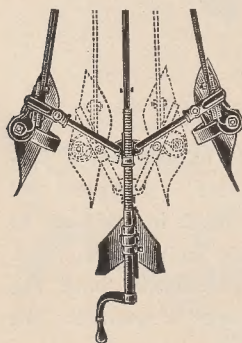

Fig. 166
**With screw expander.** (Fig. 166.) This tool can be set at the required width exactly and the screw will hold the bars rigid in their places. The slightest change can be made if necessary—that is the principle of the screw. A pawl worked in a ratchet would allow only for a certain amount of change for each cog.
**An additional set-screw adjustment** (Fig. 166) for the connecting rods of the ex-
**Range of cultivation.** (Fig. 166.) Expands to 28 inches and closes to 9. The standards can be set together and the side hoes adjusted to form a double moldboard plow, for opening furrows.